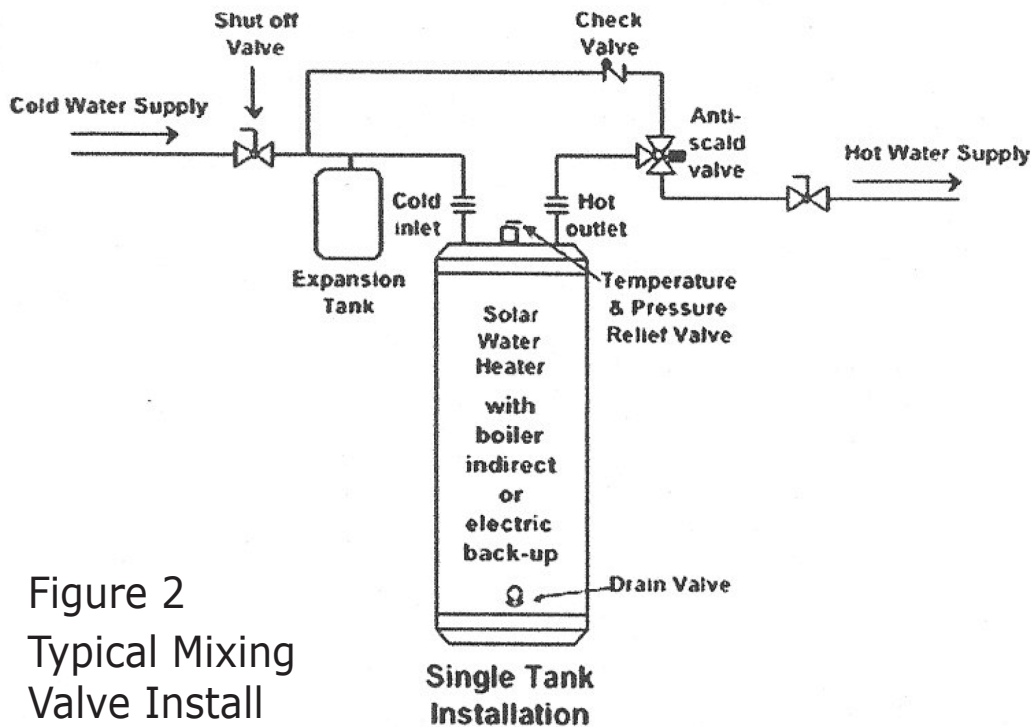
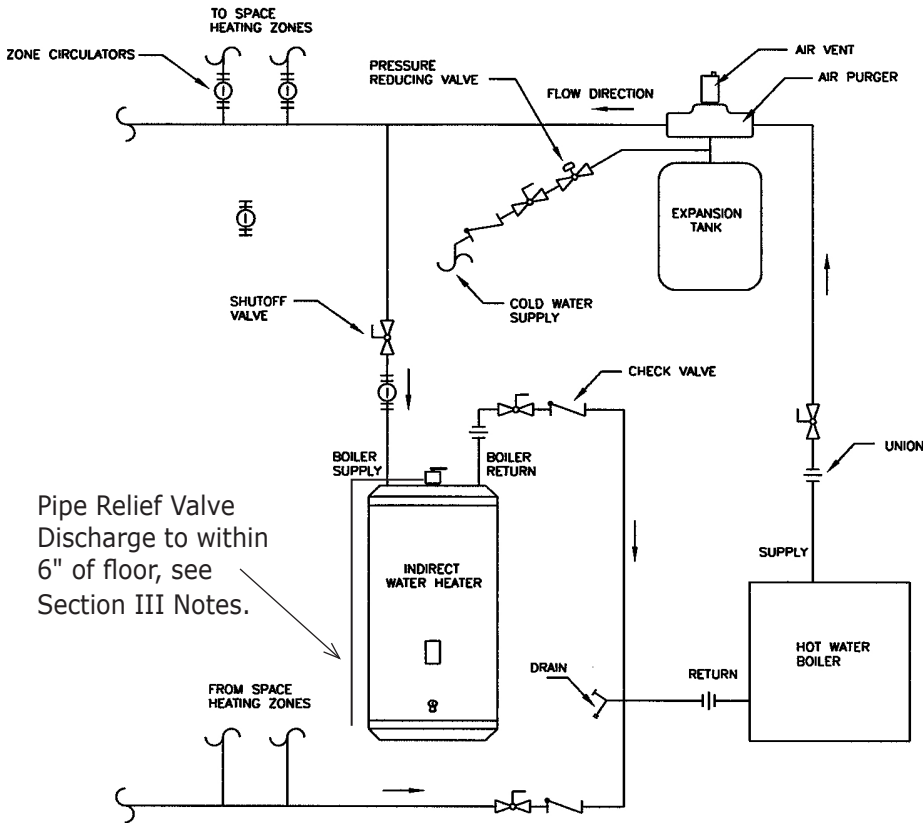

Figure 2
FIGURE 3 - BOILER WATER PIPING WITH ZONE CIRCULATORS
## **B. Water boiler piping. See Figures 2 and 3.**
1. Determine where the boiler, the space heating, and the water heater connections should be made based on the type of piping system that is either in place, or is to be installed for a new hydronic system installation. See Figure 2, Boiler Water Piping with Zone Circulators, and Figure 3, Boiler Water Piping with Zone Valves.
For space heating systems that use Zone Circulators, refer to Figure 2. The water heater connection labeled "BOILER SUPPLY" should be piped to the boiler supply piping after the air purger and before the space heating takeoffs. Mount the water heater circulator as close as possible to the water heater, and make sure the flow arrow points toward the water heater. The use of shut-off valves is recommended for future service convenience.
For a space heating system that uses Zone Valves, refer to Figure 3. The water heater connection labeled "BOILER SUPPLY" should be piped to the boiler supply piping after the air purger and before the space heating circulator. Mount the water heater circulator as close as possible to the water heater, and make sure the flow arrow points toward the water heater. The use of a shut-off valve is recommended for future service convenience.